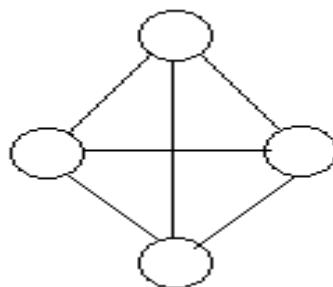

Figure 2
4. a. Figure 2 is a structure of an element that is composed of 4 atoms to make a molecule.